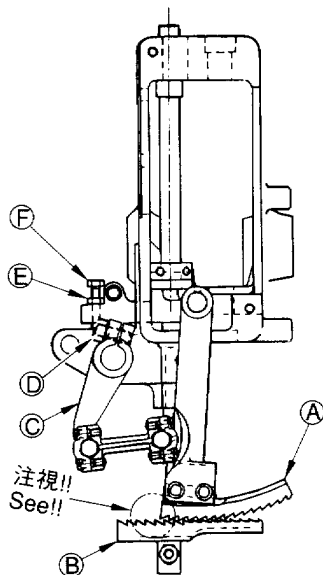
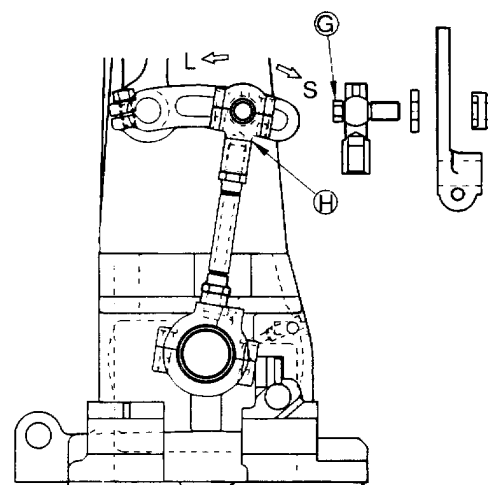

Fig. 16
Fig. 17
4-11. Setting the Upper Feed Dog (Fig.16 Fig.17)
- 1) Loosen the screw (D) on the drive lever (C). Adjust the upper feed dog (A) so that the tip of its heel meet the middle position between the 5th tooth and 6th tooth from the rear on the lower feed dog (B). (Fig.16 marked See!!)
- 2) The upper feed dog moves along by the ditch in the presser foot. The upper feed dog (A) must be in the lowest position when the lower feed dog (B) is in the highest position. At this time, a bit clearance should exist between the upper and lower feed dogs. Never push each other the upper feed dog and the lower feed dog.
- 3) To adjust the bit clearance between the upper and lower feed dog, Loosen nut (E) and adjust by the screw (F). After the adjustment tighten nut (E). (Fig.16)
- 5) Loosen the ball stud (G). Pull the drive eccentric upper to this side (S) in order to decrease the stroke, push it to opposite side (L) in order to increase the stroke. (Fig.17)
4-11. 上送り金の設定 (Fig.16, Fig.17)
- 1) 上送り金(A)の位置は、Fig.16で示す通り上送り金の歯が、下送り金(B)の歯の5枚目と6枚目の中間にくるように上送りレバー(C)のネジ(D)を緩めて調整して下さい。(注視参照)
- 3) 上送り金と下送り金との隙間調整は、Fig.16のナット(E)を緩めてネジ(F)を廻して調整して下さい。
- 5) 調整はFig.17のボールネジ(G)を緩め上送りロッド(H)を手前に動かす(S方向)と送り量は細くなり、逆に動かす(L方向)と粗くなります。